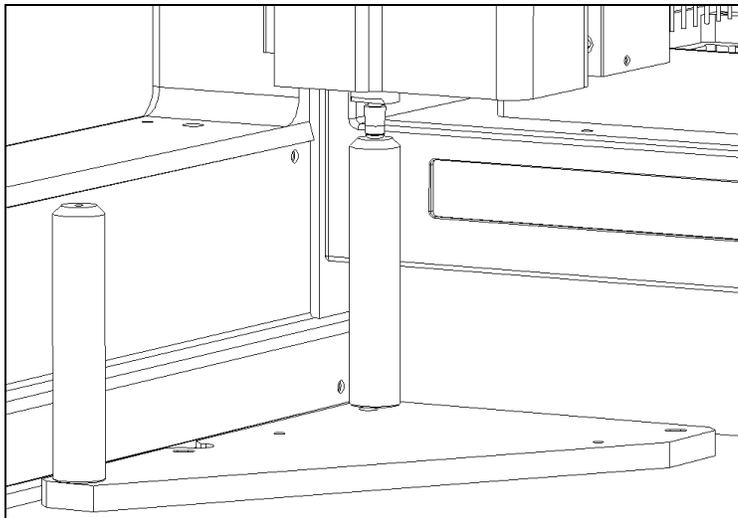

Figure 3-3 Positioning of the Pipette Spigot in the Rear Pillar
- 4 Manually move the Pipette assembly to the rear pillar and insert the spigot of the pipette into the alignment hole on the post (Figure 3-3).